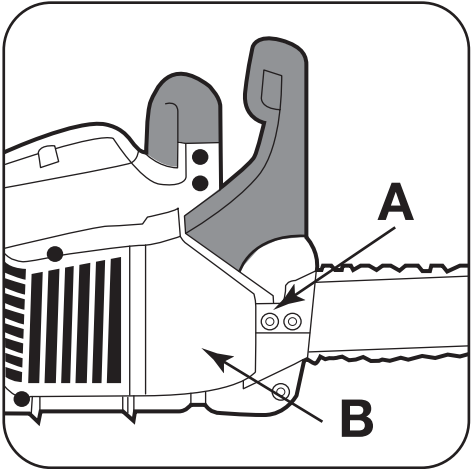

Figure 1
1. Remove bar retaining nuts (A) and cover plate housing (B). See Operator’s Manual for details on your type and model saw (Figure 1).